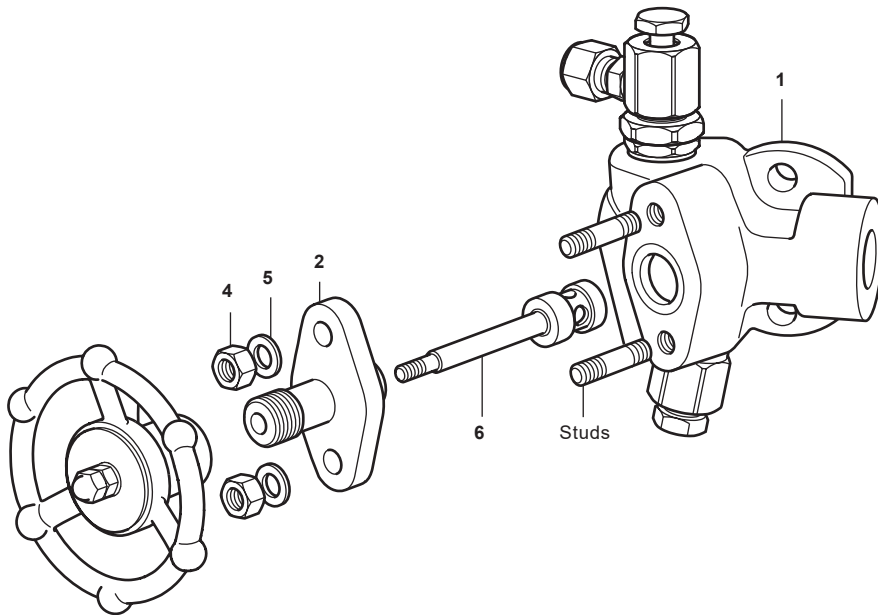

Fig. 6
4.6 Reassembling the valve - See Figure 6:
- Take the piston valve sub assembly (6), lightly insert it into the pipeline connector body (1) apply an even downwards force using the bonnet assembly (2) over the studs.
- Fit the belleville washers (5) and nuts (4) and evenly tighten the bonnet assembly (2) down to a torque of 12 Nm (8.9 lbf ft).